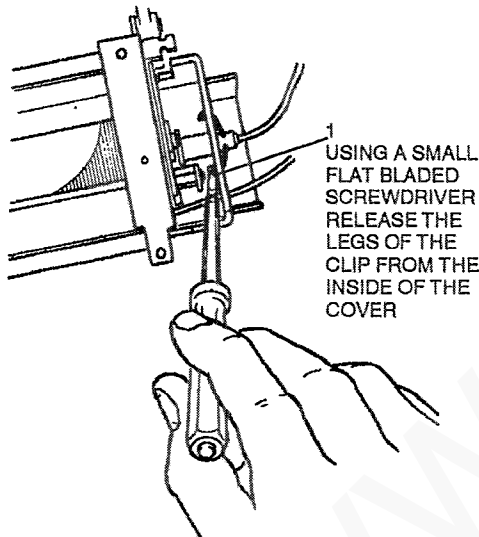

Figure 1. Fuser rod retaining clip removal
2. (Figure 1) Remove the fuser rod retaining clip.